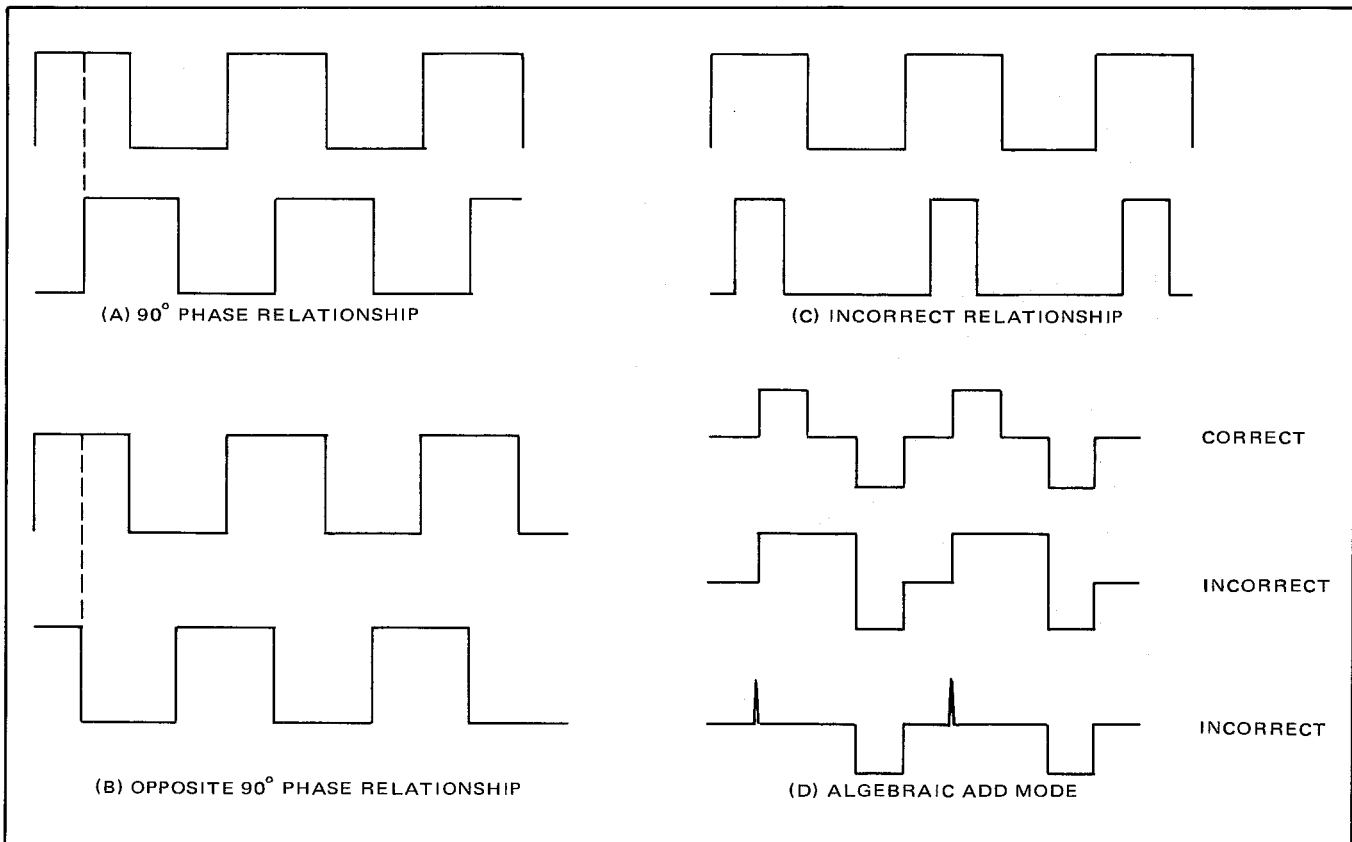

Figure 5-20. TP3 and TP4 Waveforms, PWA No. 8
12. If the preceding measurements of amplitude and phase were correct, but the capstan ran faster when the stop pushbutton was pressed, the capstan servo PWA No. 8 may have a malfunction or the capstan tach sensor PWA position may need to be adjusted to obtain the opposite  $90^\circ$  phase relationship of the signals at TP3 and TP4 (see Figure 5-20 and steps 13 through 29). If any of the previous conditions were not met, proceed to adjust the position of the capstan tach sensor PWA to obtain tach signals of proper amplitude and phase relationship by performing steps 13 through 29.